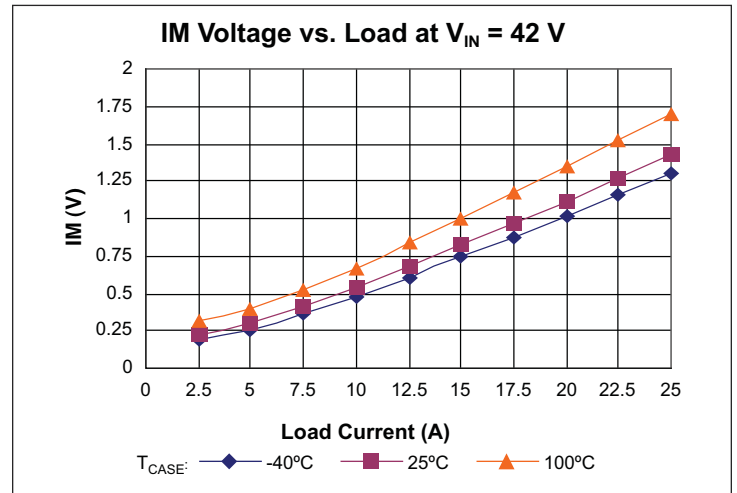

Figure 8 – IM voltage vs. load
Current Monitor (IM) pin provides a voltage proportional to the output current of the VTM. The nominal voltage will vary between 0.2 V and 1.39 V over the output current range of the VTM (See Figures 8–10). The accuracy of the IM pin will be within 25% under all line and temperature conditions between 50% and 100% load.